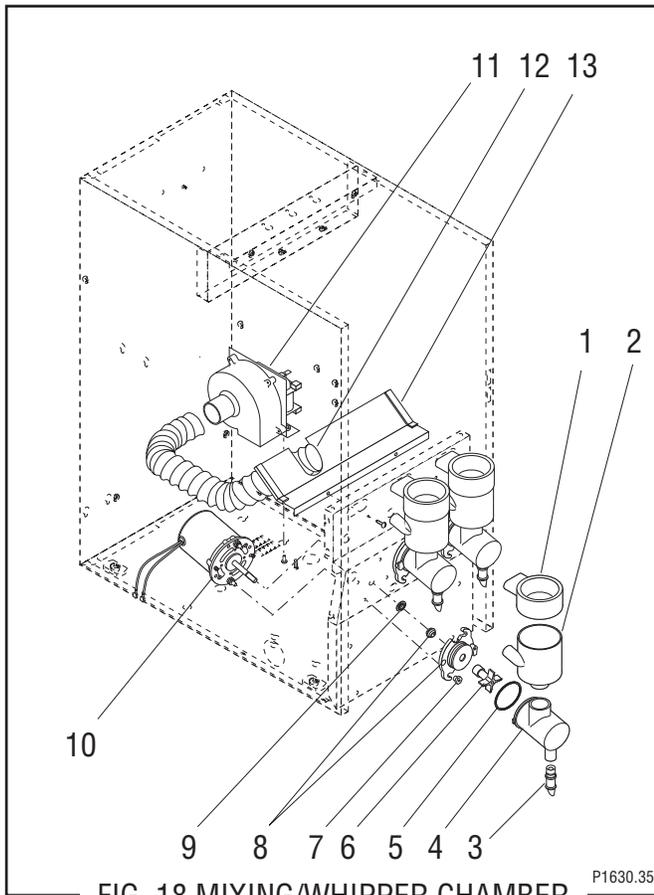

FIG. 18 MIXING/WHIPPER CHAMBER COMPONENTS
### Removal, Cleaning and Replacement (Refer to Fig. 18):
- Pull the mixing chamber (2) out of the whipper chamber (4).
- Remove the two #4-40 x .25" screws securing the fan baffle (13) to the whipper motor mounting panel and remove fan baffle. Set aside for reassembly.
- Remove dispense tip (3) and twist the whipper chamber (4) clockwise and pull it off the whipper chamber receptacle (8).
- Pull the frother (6) off the motor shaft. Notice the flat side on the shaft and the matching flat inside the frother. It is important that these two flats are lined up when reassembling.
- Slip the O-ring (5) off the whipper chamber receptacle (8).
- To remove the receptacle rotate clockwise until the receptacle clears the nuts (7) and slide off of the motor shaft.
- Slide the slinger (9) off of the motor shaft.
- Remove the two nuts (7) securing whipper motor (10) to the front panel.
- Disconnect the black leads on the motor (10) from the main wiring harness.
- Install new motor (10) on rear of front panel and secure with two nuts (7) and connect black leads on the motor to the main wiring harness. Refer to Fig. 18 when reconnecting wires
- Slide slinger (9) onto the motor shaft flush against the front panel.